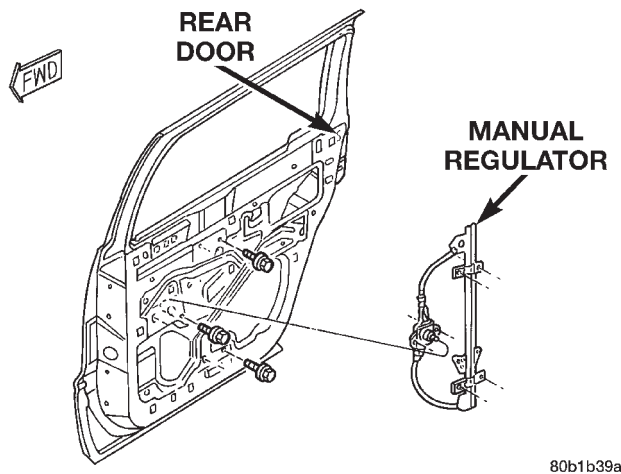
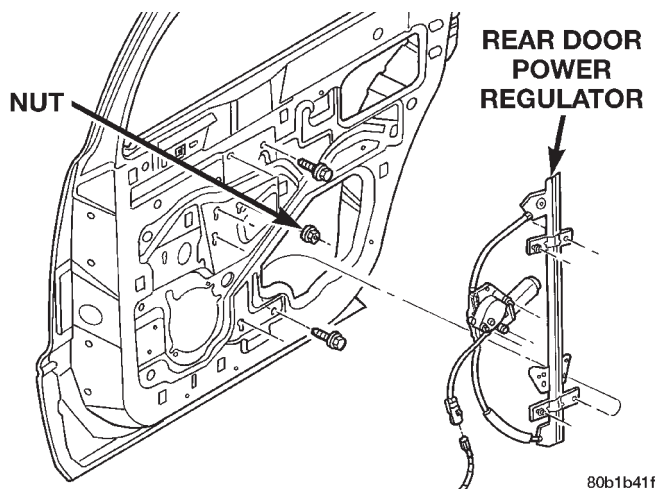

Fig. 55 Rear Door Window Regulator—Manual
Fig. 56 Rear Door Window Regulator—Power
- (1) Remove door trim panel.
- (2) Remove upper door trim extension panel.
- (3) Remove inner belt weatherstrip.
- (4) Remove waterdam.
- (5) Remove speaker.
- (6) Remove front glass run channel.
- (7) Remove door glass.
- (8) Disconnect regulator wire harness, if equipped.
- (9) Remove screws attaching window regulator to door inner panel (Fig. 55) and (Fig. 56).
- (10) Remove window regulator from door.